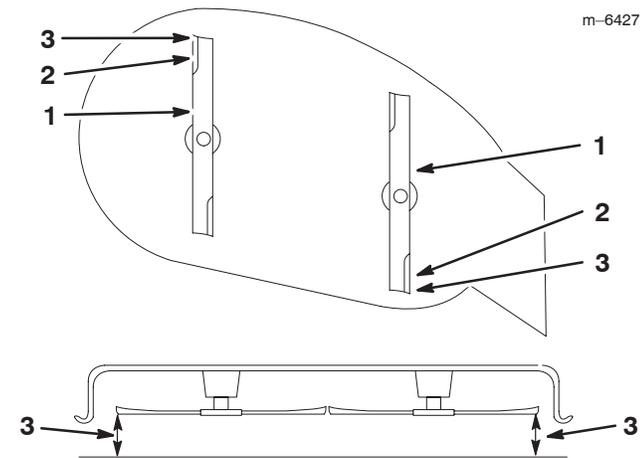

Figure 41
- Set the height-of-cut at position 3 [3 inch (76 mm)] and carefully rotate the blades so they are facing front to rear (Fig. 41).
- Measure from the tip of the front blade to the flat surface and the tip of the rear blade to the flat surface (Fig. 41). If the front blade tip is not 1/16–5/16 inch (1.6–7.9 mm) lower than the rear blade tip, adjust the front locknuts.